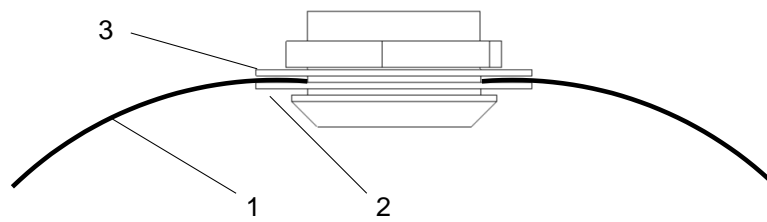

Figure 27: Finished mounting of nozzle head
5. Fasten the nozzle head using the nut; the nozzle head will now be positioned on the pipe as shown in Figure 27, where 1 is the pipe, 2 is the split ring on the inside of the pipe and 3 is the outer ring